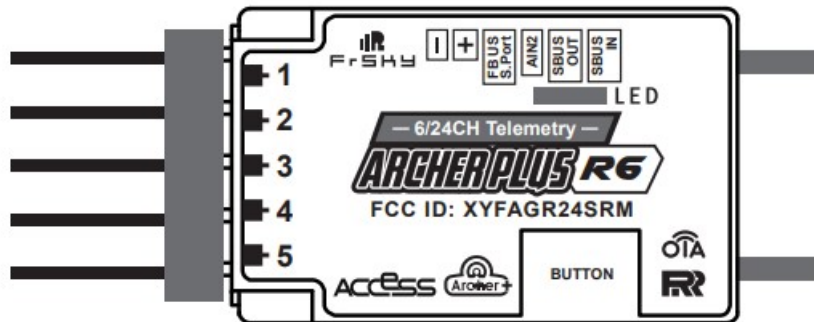

Figure 37: Archer Plus R6
- Telemetry power cable connected to AIN2. (Figure 37)
ii. On the Archer Plus R6, hold down the receiver button while powering up the Archer Plus R6. (Figure 37)